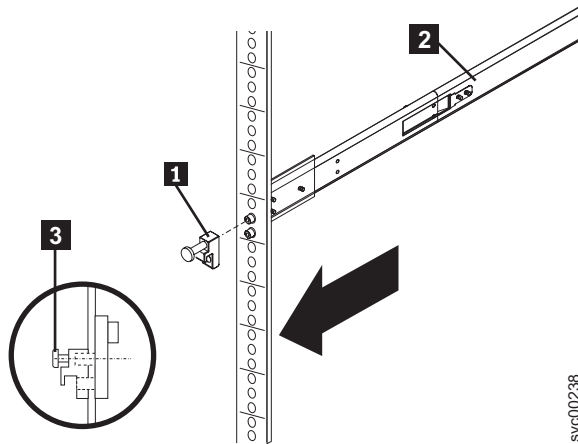

Figure 40. Attaching the latch strike to the front of the slide rail
- Attach one latch strike **1** to the front of the right rail **2**, as shown in Figure 40, using the captive screw **3**. Turn the screw only finger tight. Attach the other latch strike to the front of the left rail in the same way.